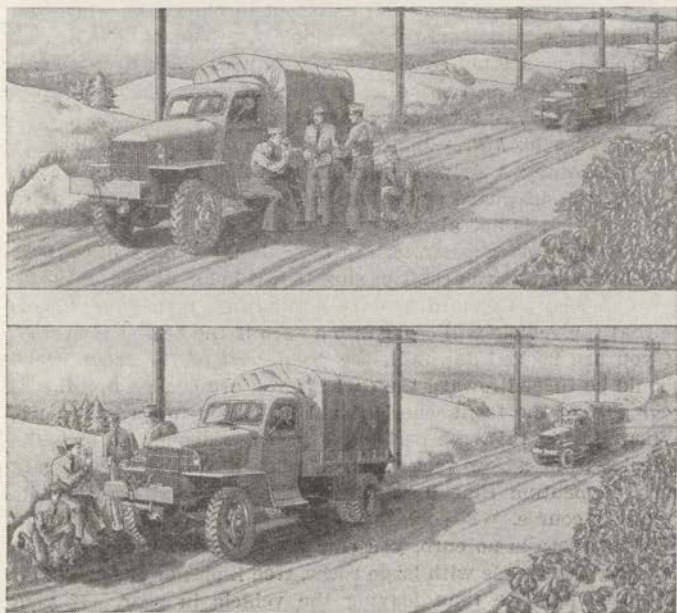

FIGURE 12.—Parking on the highway—Which is the sensible way?
c. Safety of personnel when halted or parked.—To be safe from being struck by passing vehicles, you and any others over whom you have control should keep off the road, to the right. (See fig. 12.)